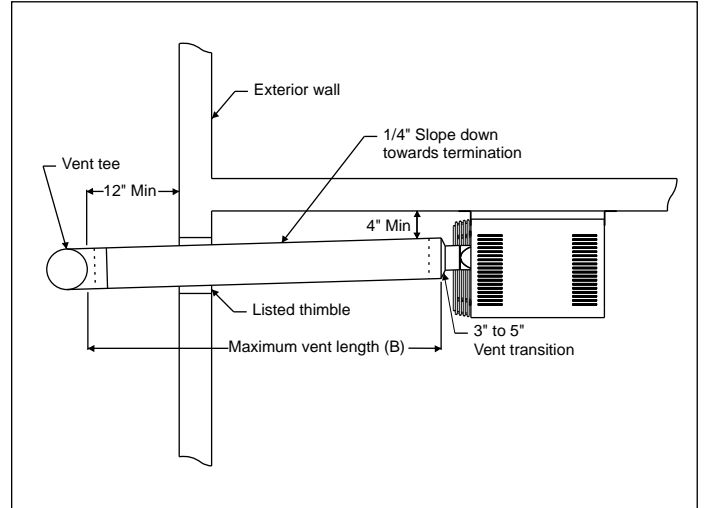

Figure 3.3
① One of the two allowed elbows is required to create the vent extension shown in figures 3.3 and 3.4.
② The vertical rise gained from an elbow is 4". Therefore, 4" may be subtracted from the length of vertical pipe needed in the vent extension. If the minimum vertical rise required is 4" you do not need to add a section of vertical pipe to the vent extension.